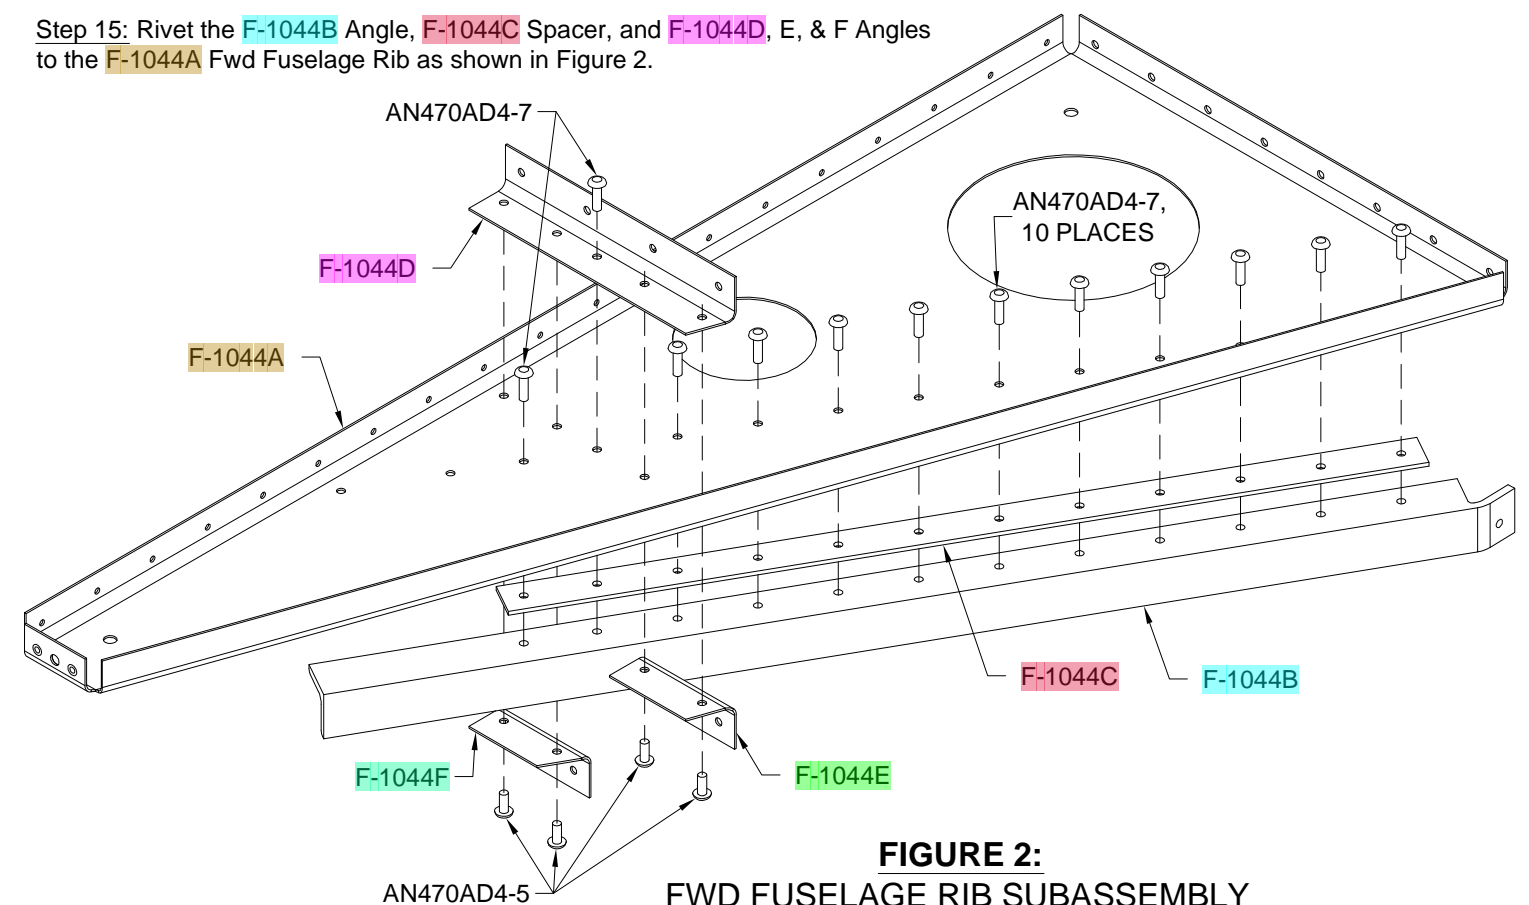

FIGURE 2:
Step 13: Dimple the nutplates that will be attached to the **F-1003D** & E Inst Panel Attach Flanges and **F-1083Q** Quadrant Mount Bracket. See Figure 1 and Page 31-5Q, Figure 2.
Step 14: Rivet nutplates to the **F-1003D** & E Inst Panel Attach Flanges and **F-1083Q** Quadrant Mount Bracket as shown in Figure 1 and Page 31-5Q, Figure 2.
Step 15: Rivet the **F-1044B** Angle, **F-1044C** Spacer, and **F-1044D**, E, & F Angles to the **F-1044A** Fwd Fuselage Rib as shown in Figure 2.